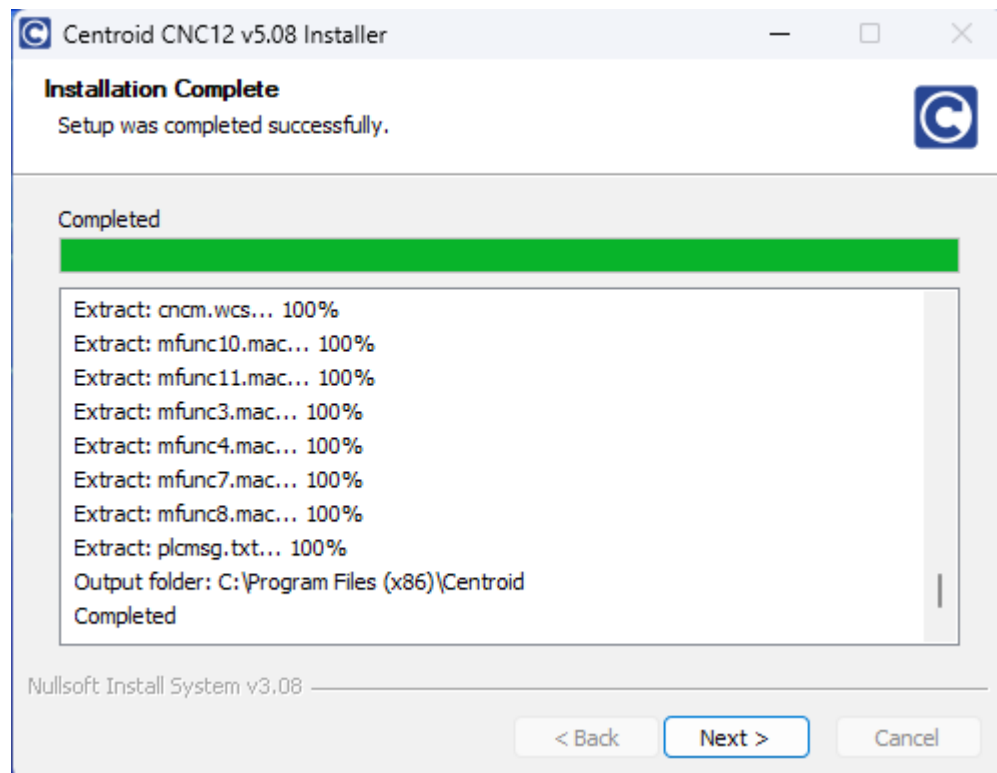

Figure 3.2.7
- 11. Installation.** The CNC12 files will now be installed, and the “**Installation Complete**” screen (Figure 3.2.7) should appear when it finishes. Click “Next” to continue.